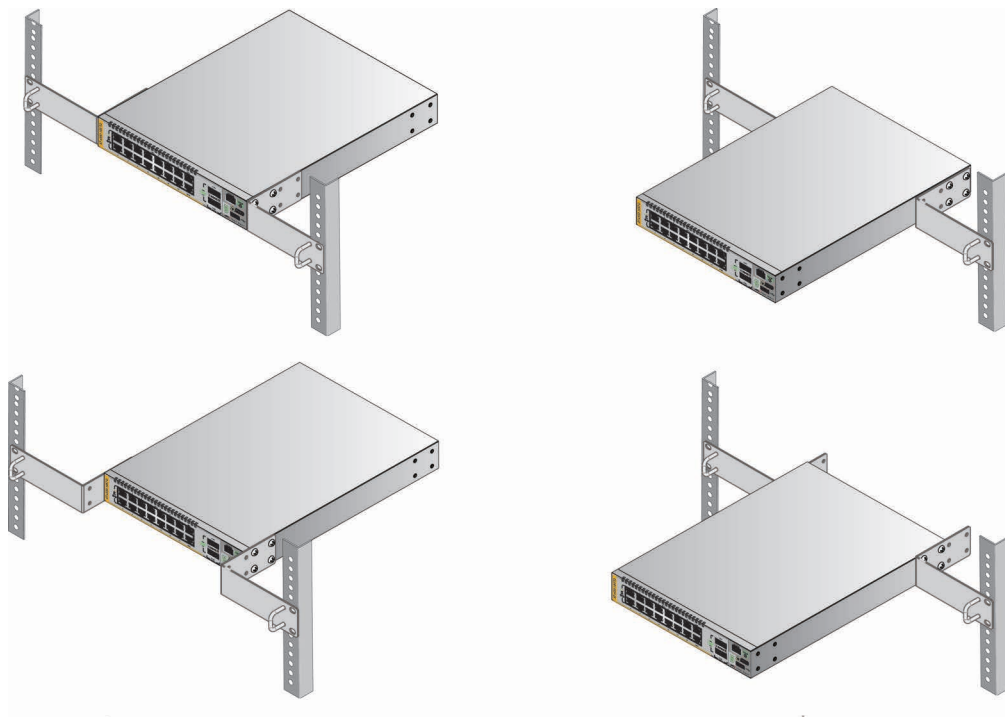
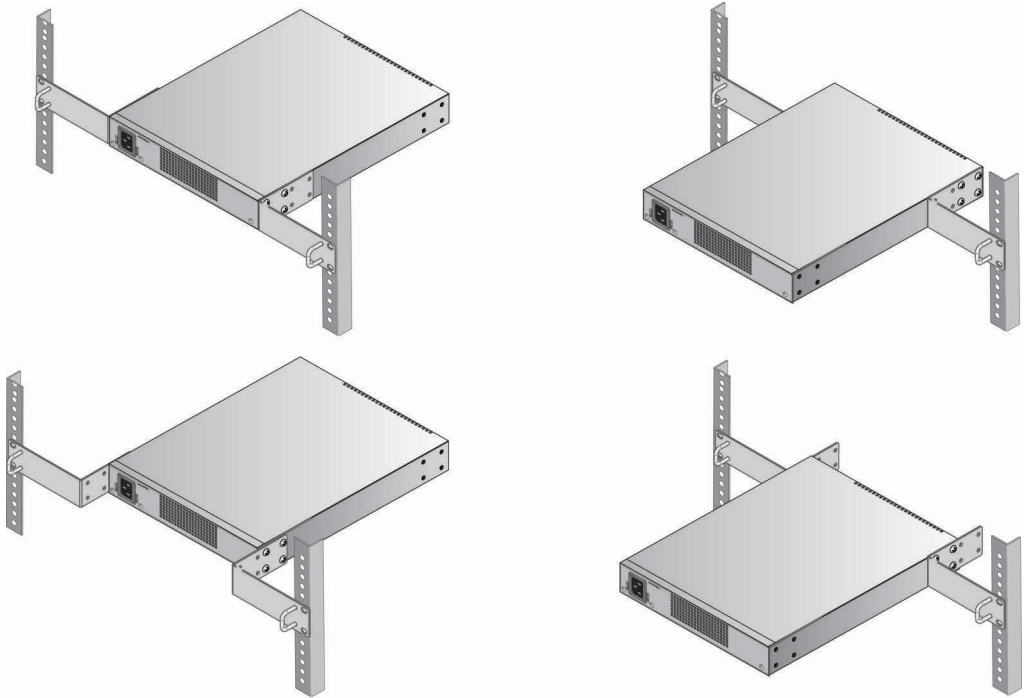
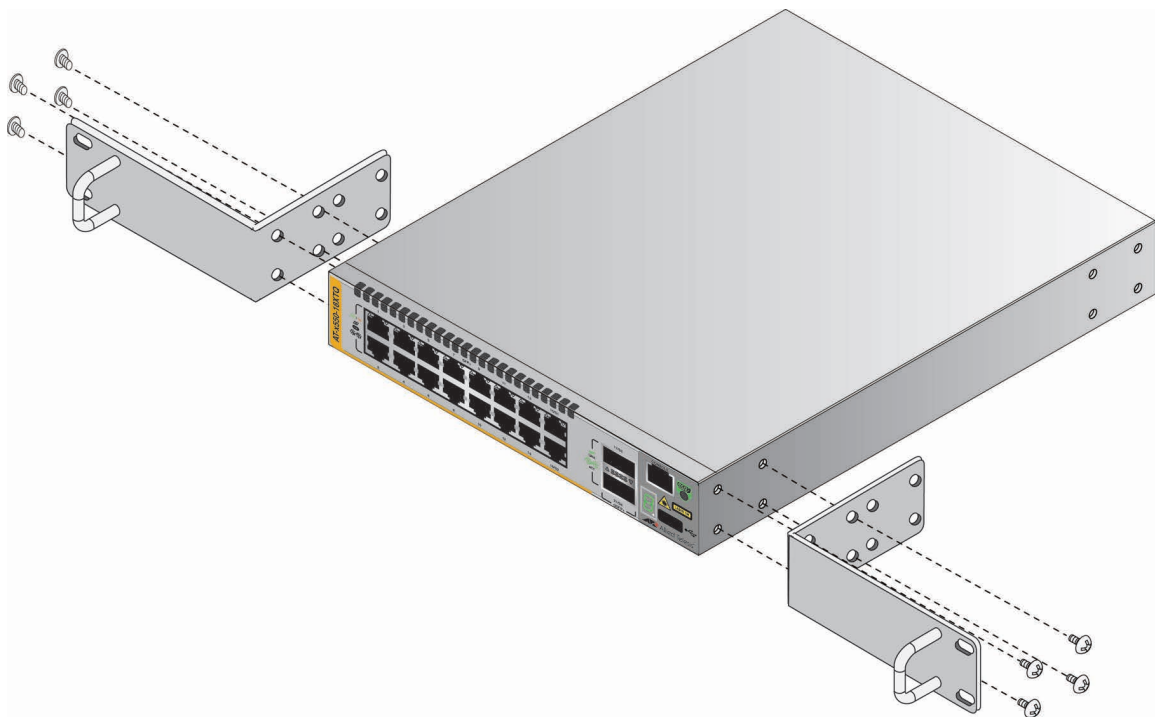

Figure 23. Switch Orientations with the Front Panel Facing the Front of the Equipment Rack
Figure 24. Switch Orientations with the Rear Panel Facing the Front of the Equipment Rack
Figure 26. Attaching the AT-RKMT-J14 Brackets to the Switch
You can use the different sets of holes on the switch and brackets to install the switch in the equipment rack in a variety of orientations. You can install it with the front panel flush with, extending in front of, or recessed behind the front of the equipment rack. The illustrations in Figure 23 show the switch orientations with the front panel facing the front of the equipment rack.
You can also orient the switch with the rear panel facing the front of the equipment rack. Refer to Figure 24.
3. Attach the two brackets to the sides of the switch in the selected position, using the eight M4x6mm screws included with the unit. (Refer to Figure 23 on page 62 and Figure 24 on page 63.) The illustration in Figure 26 shows the installation of the brackets such that the front panel of the switch is even with the front of the equipment rack.